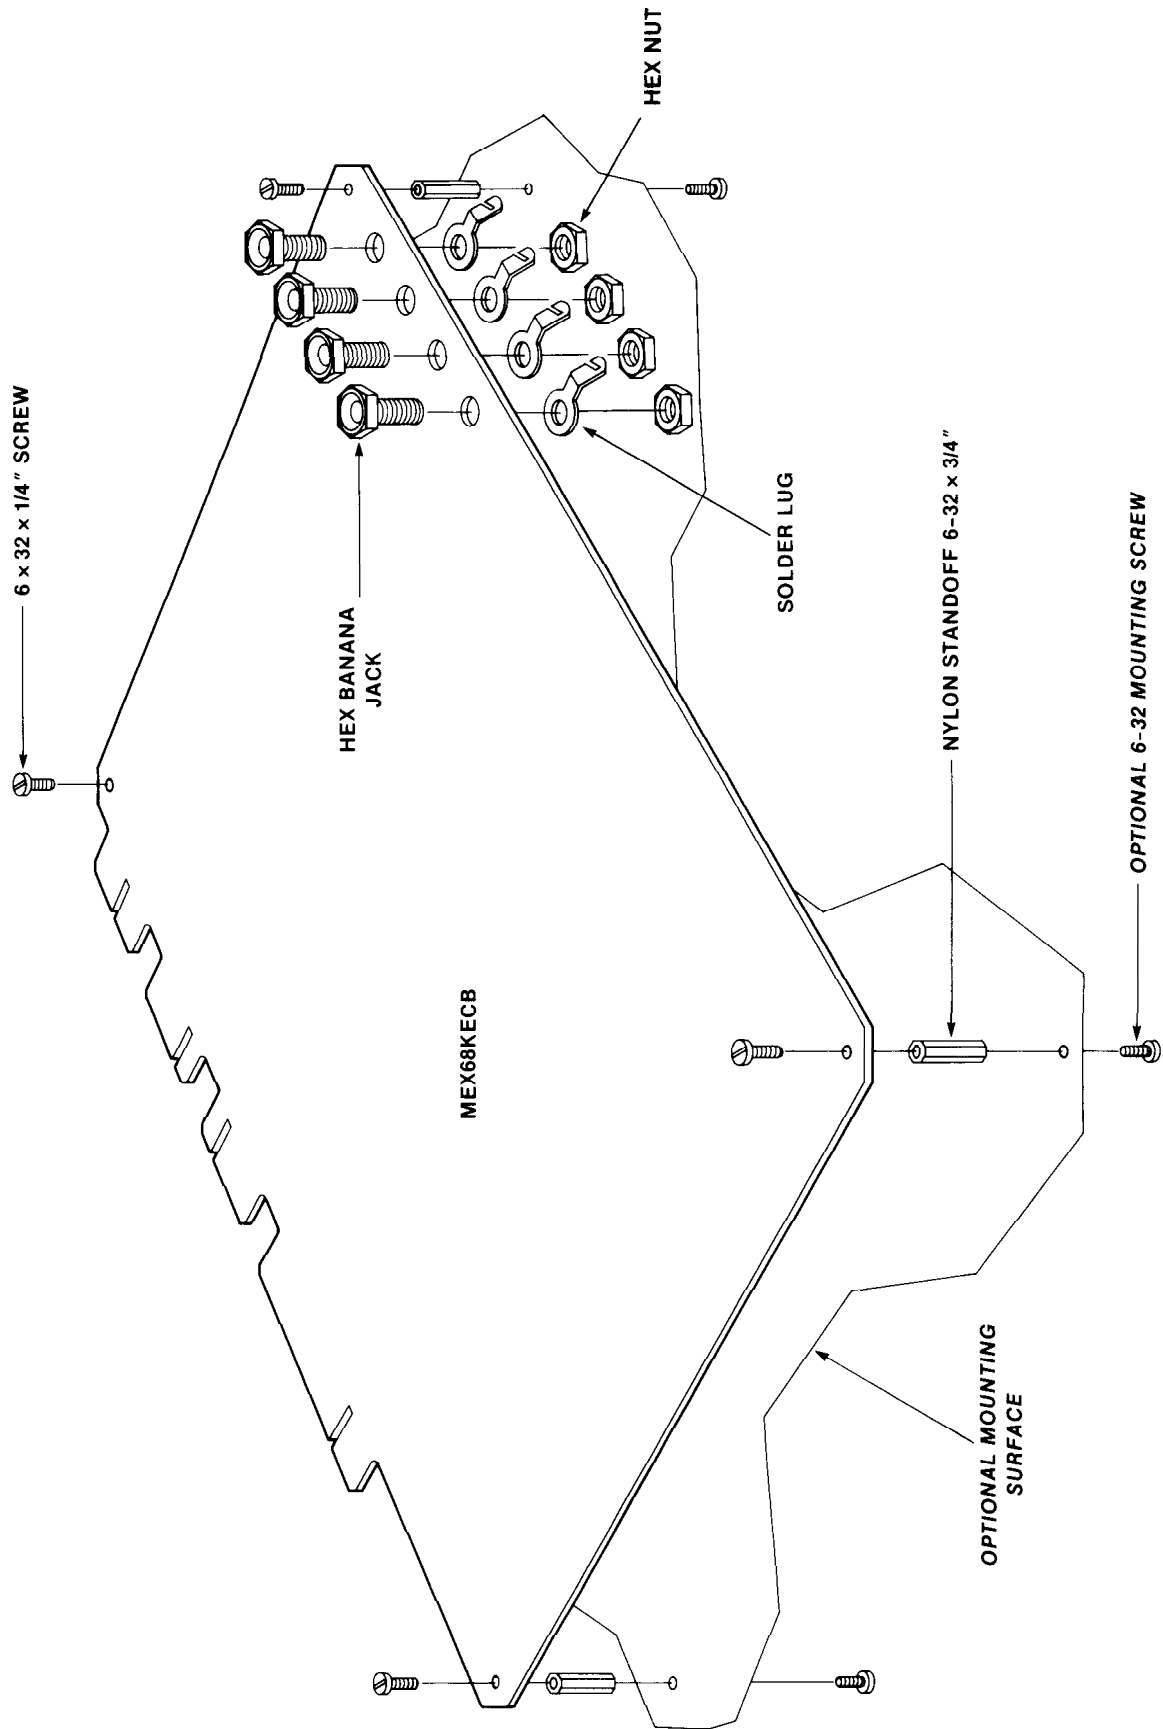
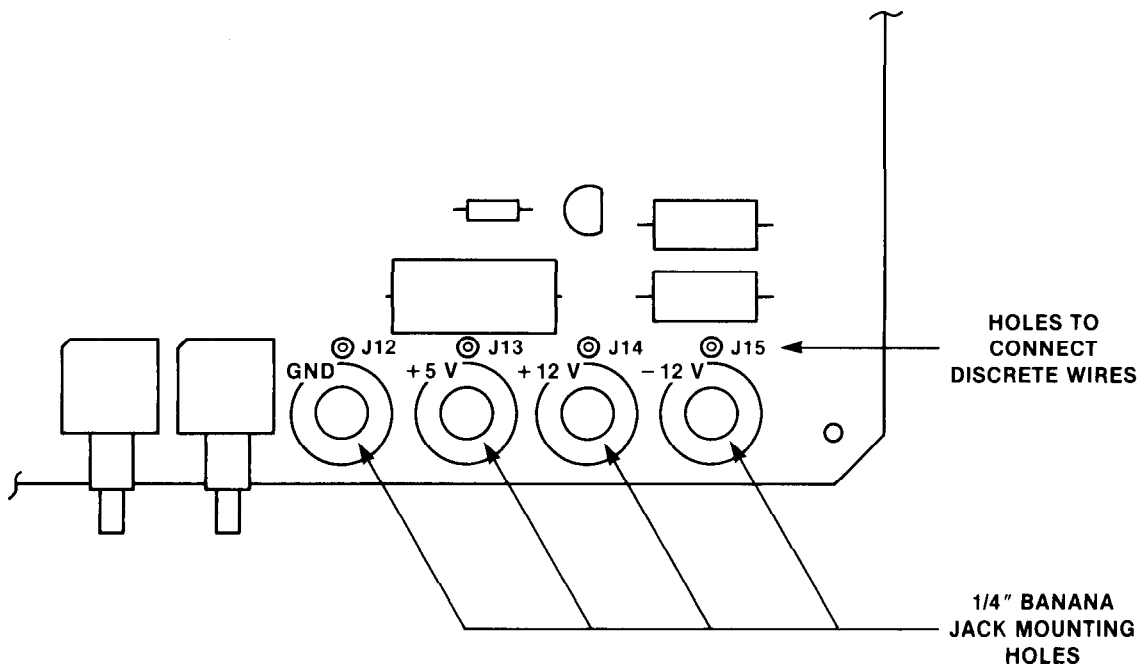

FIGURE 2-2. Hardware Mounting Detail
FIGURE 2-3. Detail Showing Location of Holes J12, J13, J14, J15 to Connect Discrete Power Wires
Four holes located at the corners of the board are used to mount the nylon standoffs. These are screwed to the back side (opposite of component side) of the card, as shown in Figure 2-2.
2.2.2.1 Banana Jacks. Four banana jacks compatible with standard banana plugs are provided for power connectors (+12 Vdc, +5 Vdc, Ground, -12 Vdc). These are mounted in four 1/4-inch holes at a corner of the board, as shown in Figure 2-2.
2.2.2.2 Alternate Method - Discrete Wires. If banana plugs are not desired, discrete wires can be used to supply power to the board. Wires can be soldered to the lugs supplied with the banana jacks (Figure 2-2) or four small holes are provided to solder discrete wires to the board. These holes (designated J12, J13, J14, J15) are shown in Figure 2-3, and interconnect supply voltages as follows: